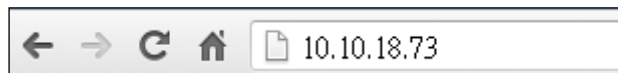

Figure 3-16: IEI iMAN Web Address
- Step 2:** On the remote management console, open a web browser. Enter the managed system IP address in the web browser (**Figure 3-16**).